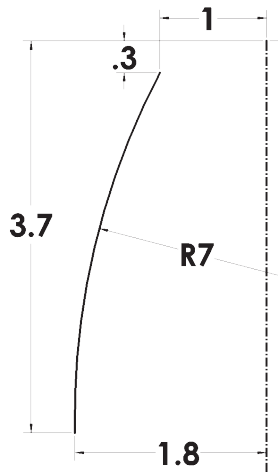

Fig. 5
Step 4. Click **Smart Dimension**  (S) on the Sketch toolbar.
Step 5. Add dimension. Dimension the arc radius 7 last, **Fig. 5**.